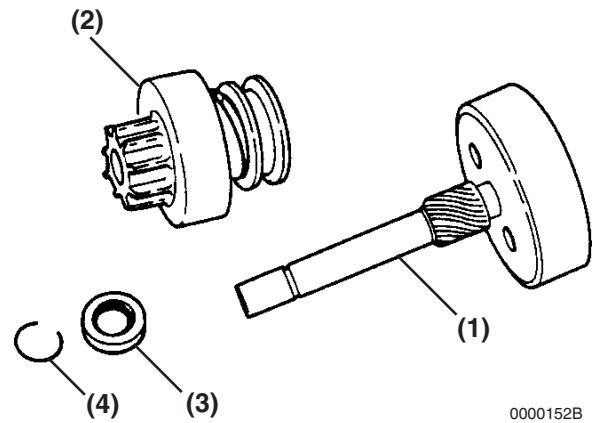

Figure 10-29
3. Reinstall the pinion clutch assembly (**Figure 10-29, (2)**), return spring (if equipped) and pinion stop (**Figure 10-29, (3)**) onto the pinion shaft (**Figure 10-29, (1)**). Reinstall the retaining ring (**Figure 10-29, (4)**) in the groove in the pinion shaft. Slide the pinion stop over the retaining ring.